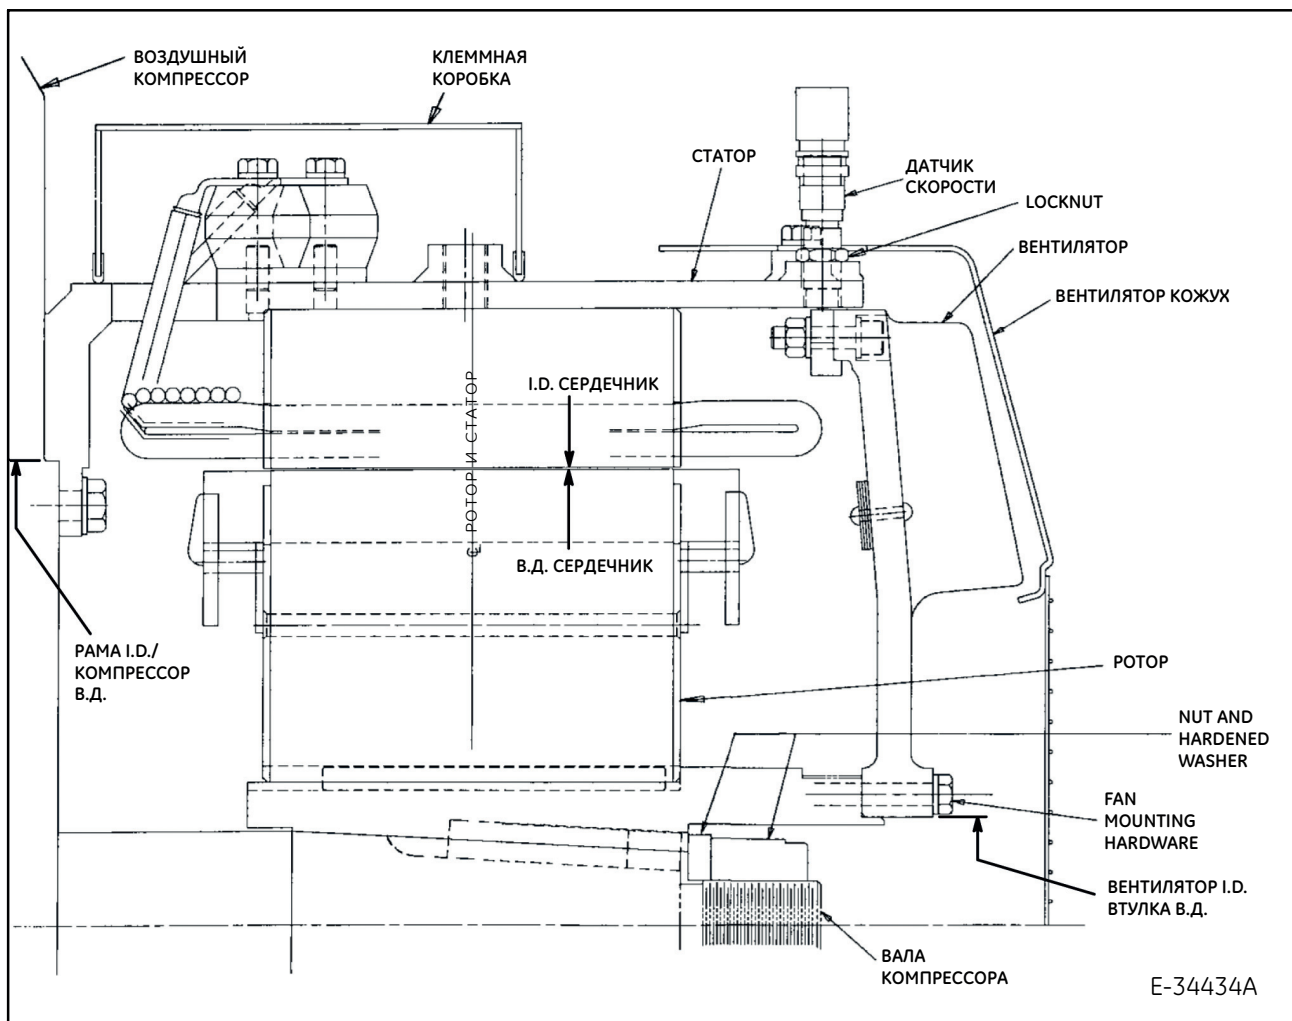

Figure 2. 5GYA28 Air Compressor Motor - Longitudinal Cross Section
3.1. MOTOR END (Figure 2)
22. Assemble a hardened washer and high strength elastic stop nut to the end of the air compressor shaft (Figure 2). Torque nut to 500 lb.-ft. (678,13 Nm).
23. Assemble motor fan (Figure 2) to rotor. Apply Loctite 242 to bolts before assembly. Torque bolts to 21-24 lb.-ft. (28,48-32,55 Nm).
25. Assemble speed sensor at top of stator (Figure 2). Turn sensor in until it contacts the surface of the fan, then take depth reading.